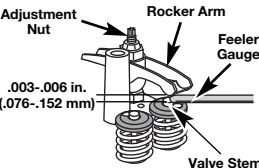

Fig. 42
- Slide the feeler gauge between the rocker arm and the valve return spring. Measure the clearance between the valve stem and rocker arm (Fig. 42). Measure both the intake and exhaust valves.
- Turn the adjustment nut using a 5/16 inch (8 mm) wrench or nut driver (Fig. 42).